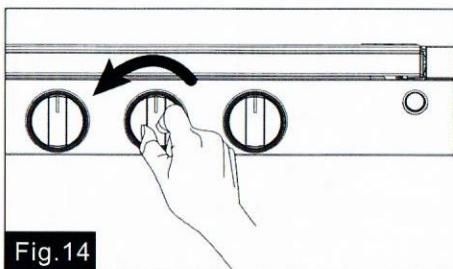

Fig. 14
3. Turn the appropriate burner knob counterclockwise to "HI" position. (Figure 14)